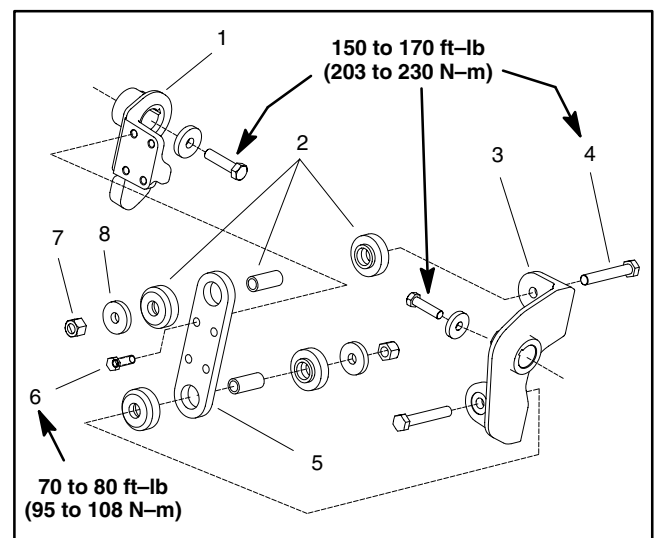

Figure 7
3. Remove two (2) lock nuts and hardened D washers that secure rotolink damper to coring head frame (see Rotolink Dampers in this section).
- C. If #6 stomper arm is being removed, remove spacer tube (item 12) from coring crankshaft.
- A. Remove fasteners that secure coupling plate to coupling on stomper to be removed (Fig. 7).